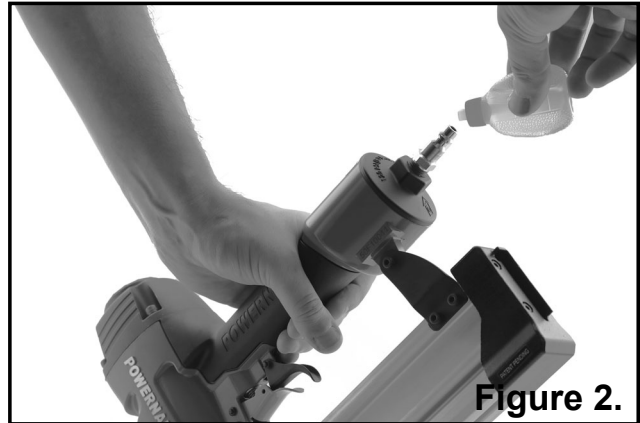

Figure 2.
- 2.) Place two (2) drops of air-tool oil in the air plug as shown (Figure 2). If you are using an automatic in-line oiler, check and add oil if necessary.